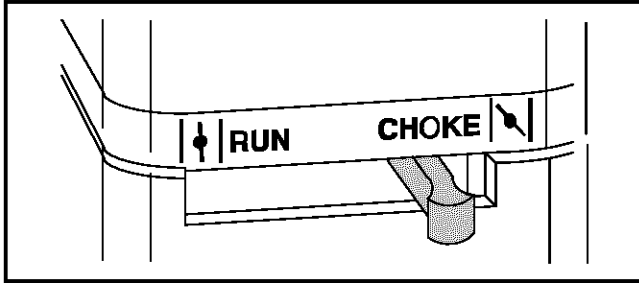

Figure 10
- Move choke lever to CHOKE position. (A warm engine may not require choking). See Figure 10.